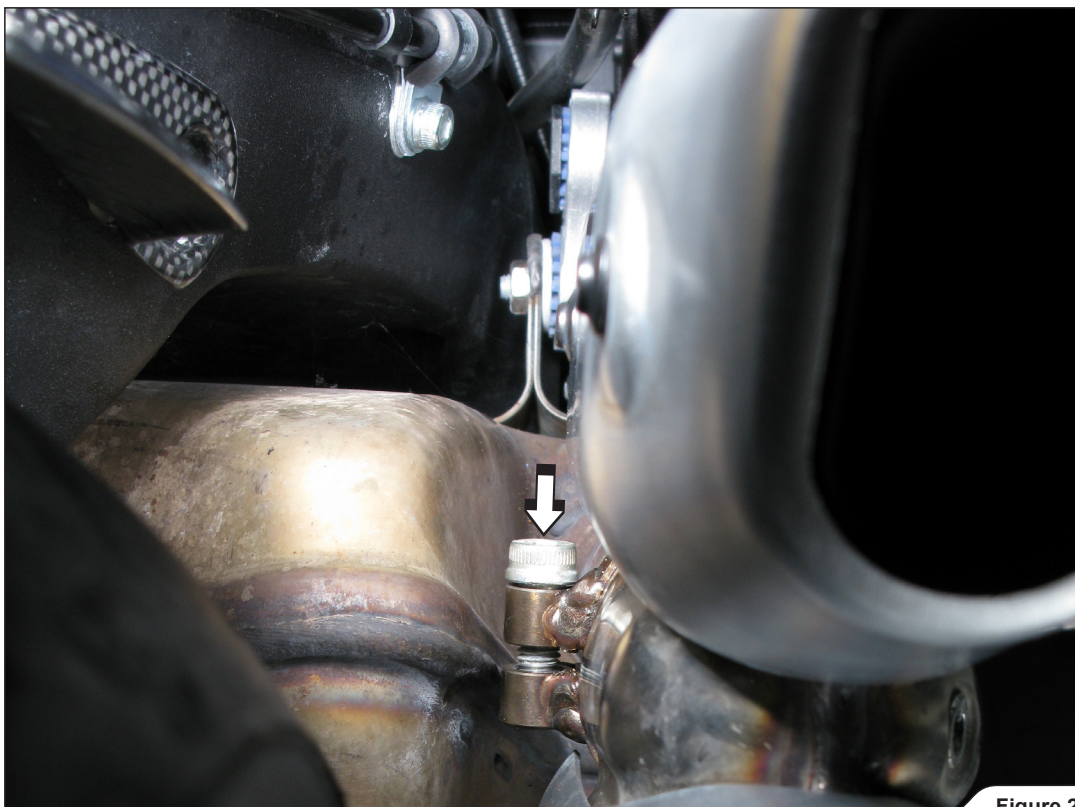

Figure 2
3. Untighten the marked stock muffler's inlet clamp (**Figure 2**).